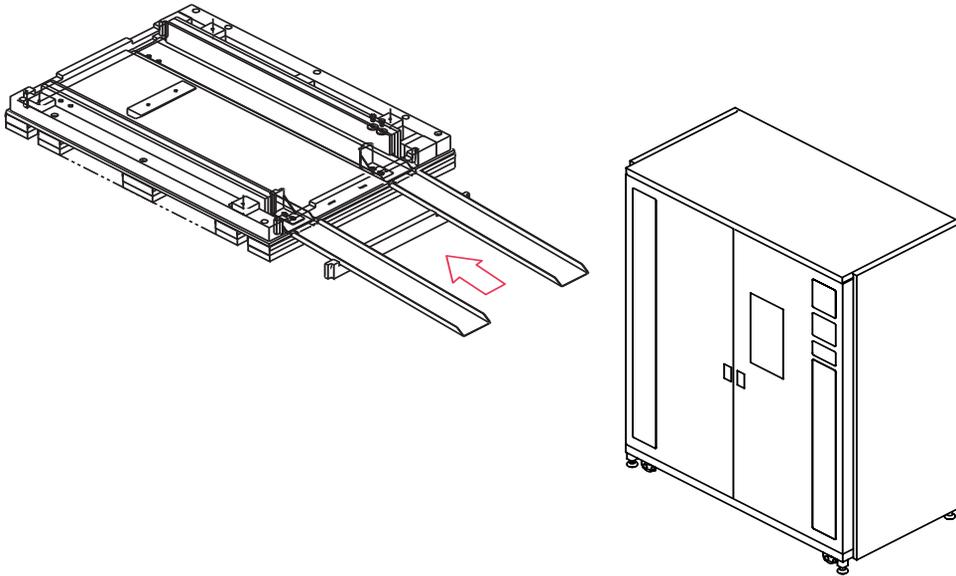

FIGURE B-3 Placing the Library onto the Pallet
- 1. Prepare the shipping pallet for the library as shown in FIGURE B-3.**